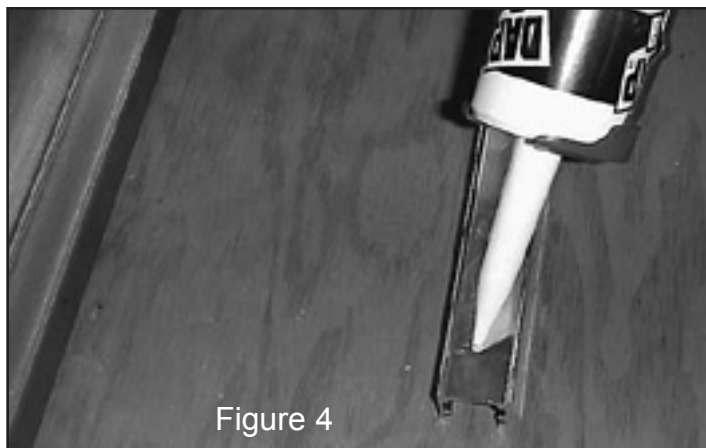

Figure 4
F. Apply an abundant amount of Silicone to the underside of the Bottom Curb/Sill (#2), for the entire length (See Figure 4), position on shower dam (with the weep holes facing towards the inside of the shower).